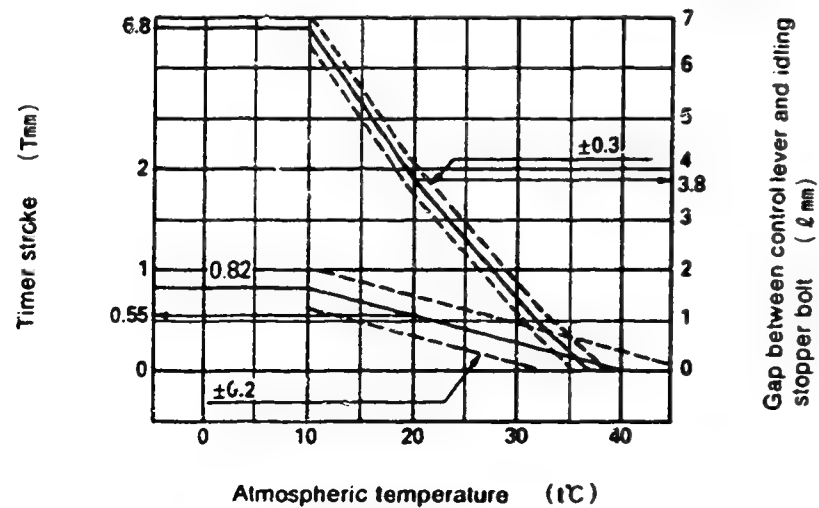

Fig. 2
1. Calculate the timer stroke from Fig. 2 according to the atmospheric temperature at the time of adjustment.
Formula for calculating Fig. 2  $10 \leq t \leq 20$   $T = -0.027t + 1.09$
1. Calculate the block gauge dimension  $l \pm 0.05$ mm from Fig 2 according to the atmospheric temperature at the time of adjustment.
2. Insert the block gauge (thickness gauge) selected in Step(1) above between the bracket and the idling stopper bolt.